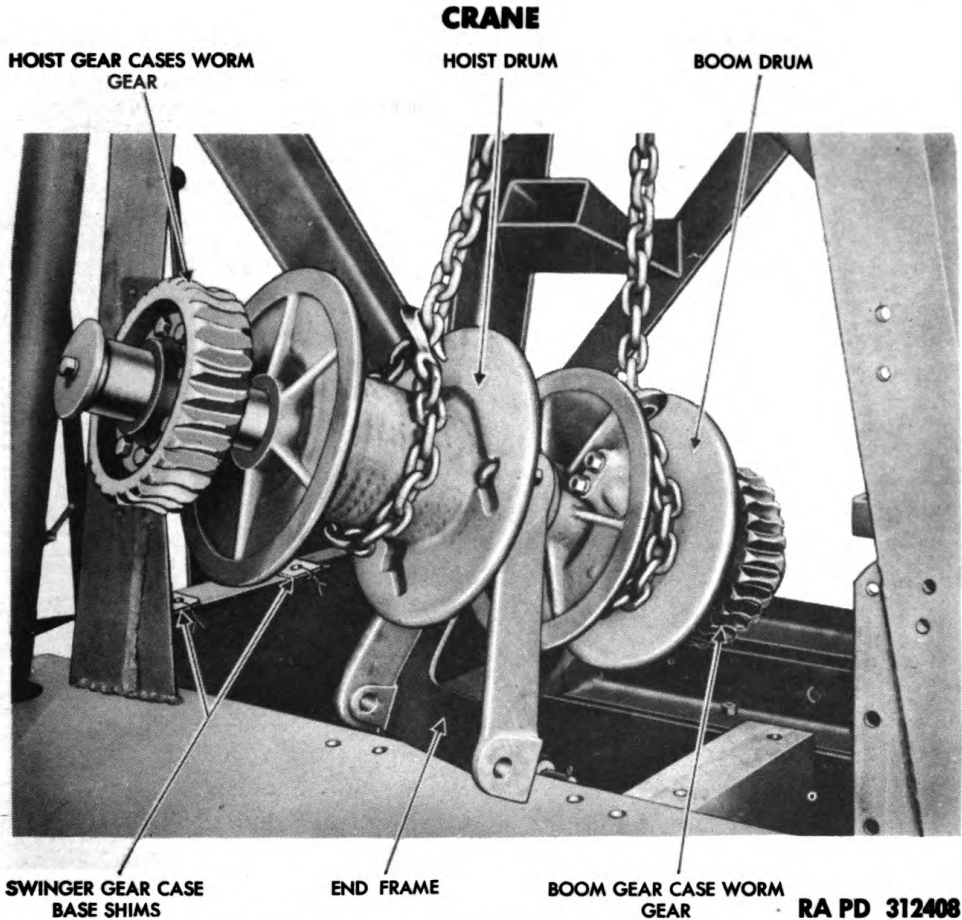

Figure 13 – Removing Double Drum Assembly
g. Remove Swinger Gear Case Support. Remove four $\frac{5}{8}$ -inch bolts, nuts, and lock washers attaching swinger gear case base angles to the A-frame. Remove four $\frac{5}{8}$ -inch bolts, nuts, and lock washers attaching base angles center supports to crane A-frame and lift base angles and center support out of A-frame. Use care not to disturb the alinement shims under the four corners of the base angles. Wire these to the crane frame to insure their being returned in the same quantity to the same position (fig. 13).
worm gears up and out of the gear cases. Rotate this assembly and pull it through the rear face of the crane A-frame, at the same time lower the chain hoist to permit the assembly to come to the rear and onto the boom pivot base plate (fig. 13). Disconnect the bridal chain and pull out the boom drum, shaft, and worm wheel and lower to the ground. Lift off the center support and then the hoist drum, shaft, and worm wheel assembly. This is a split shaft assembly and can be taken from the boom pivot base plate in three pieces to facilitate ease of handling (fig. 52).